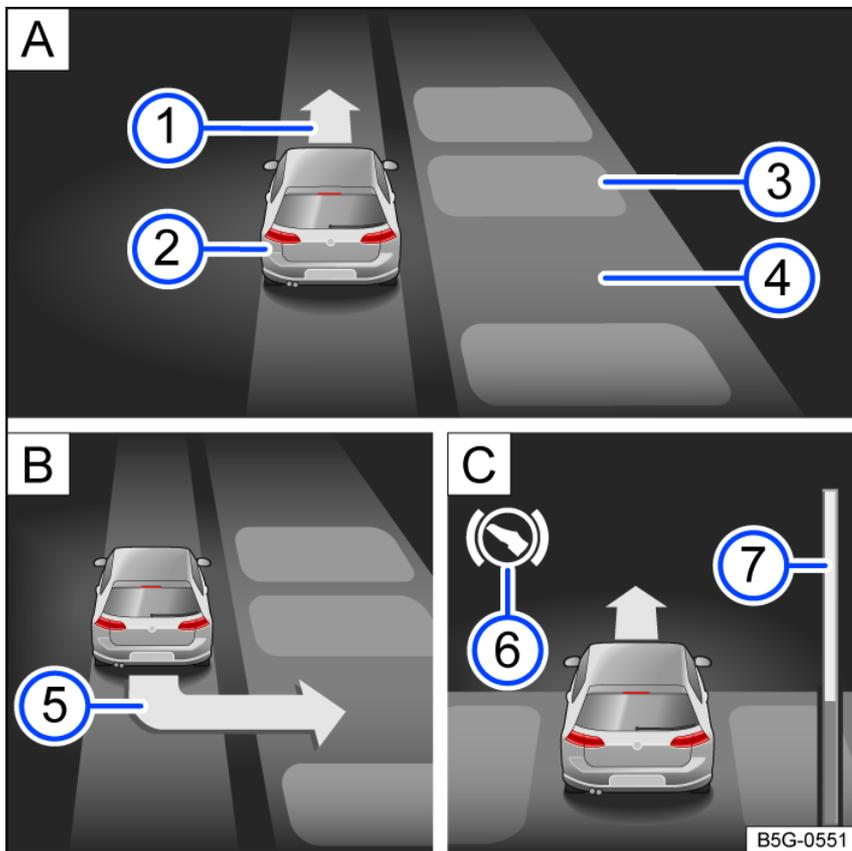

Fig. 149 In the instrument cluster display: parking perpendicular to the road.
- ① Prompt to drive forward.
- ② Your vehicle.
- ③ Parking vehicle or obstacle.
- ④ Detected parking space.
- ⑤ Request to drive backwards.
- ⑥ Request to brake.
- ⑦ Progress bar (relative distance remaining).
2. Pay attention to the prompt for parking in the instrument cluster display *fig. 149* ⑤.